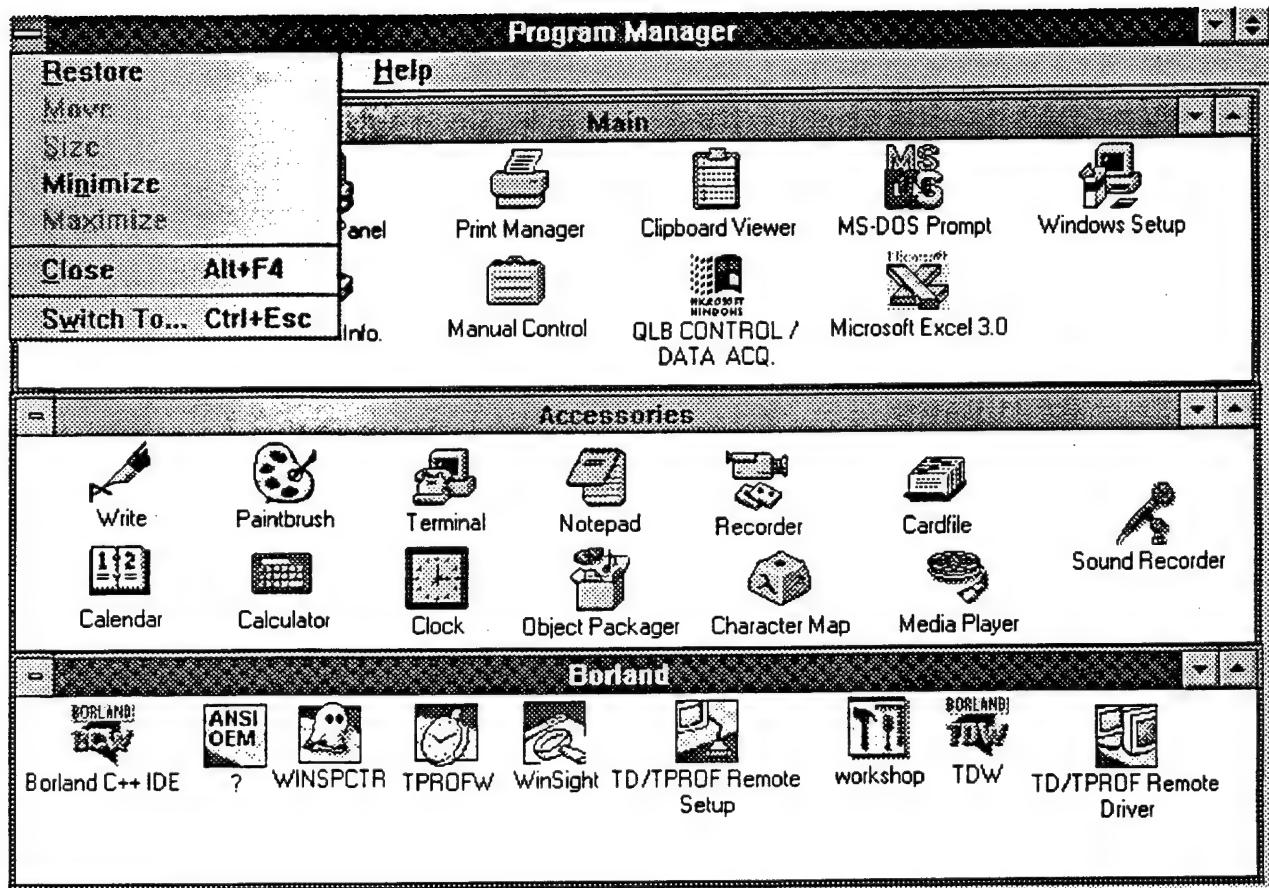

Figure 3-8. Windows Program - Main Menu.
8. Position cursor on EXIT and execute single click. WINDOWS Program Manager (Figure 3-8) will appear.